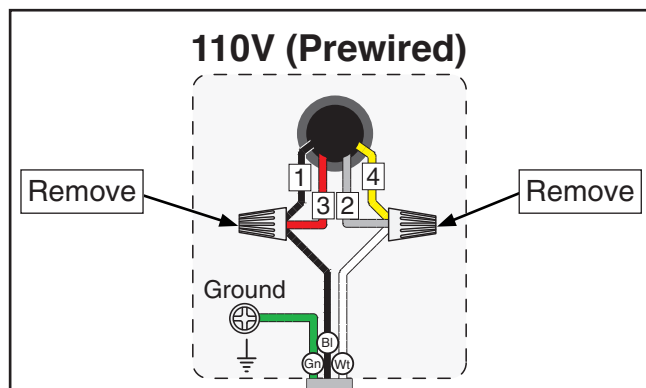

Figure 1. Location of components to be removed and loosened.
3. Open main motor junction box, then remove wire nuts indicated in **Figure 1**.